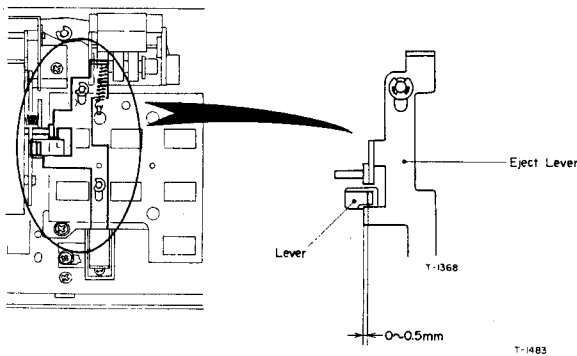

Fig. 5-9 Lever and eject lever clearance
5. Be sure that position relationship between the bent tip of the lever and the left hand end of the eject lever is as shown in Fig. 5-9.